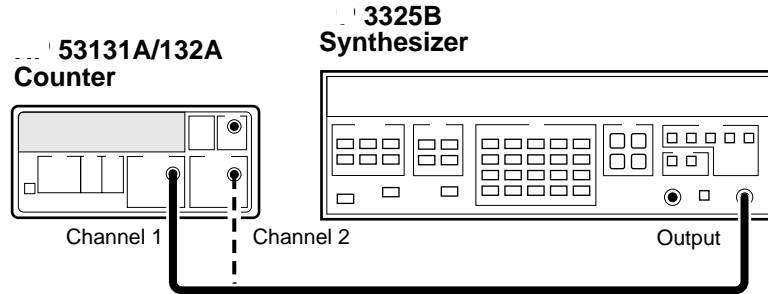

Figure 1-6. Trigger Level Test Setup
- 1 Connect the output of the Agilent 3325B to Channel 1 of the Counter as shown in Figure 1-6.